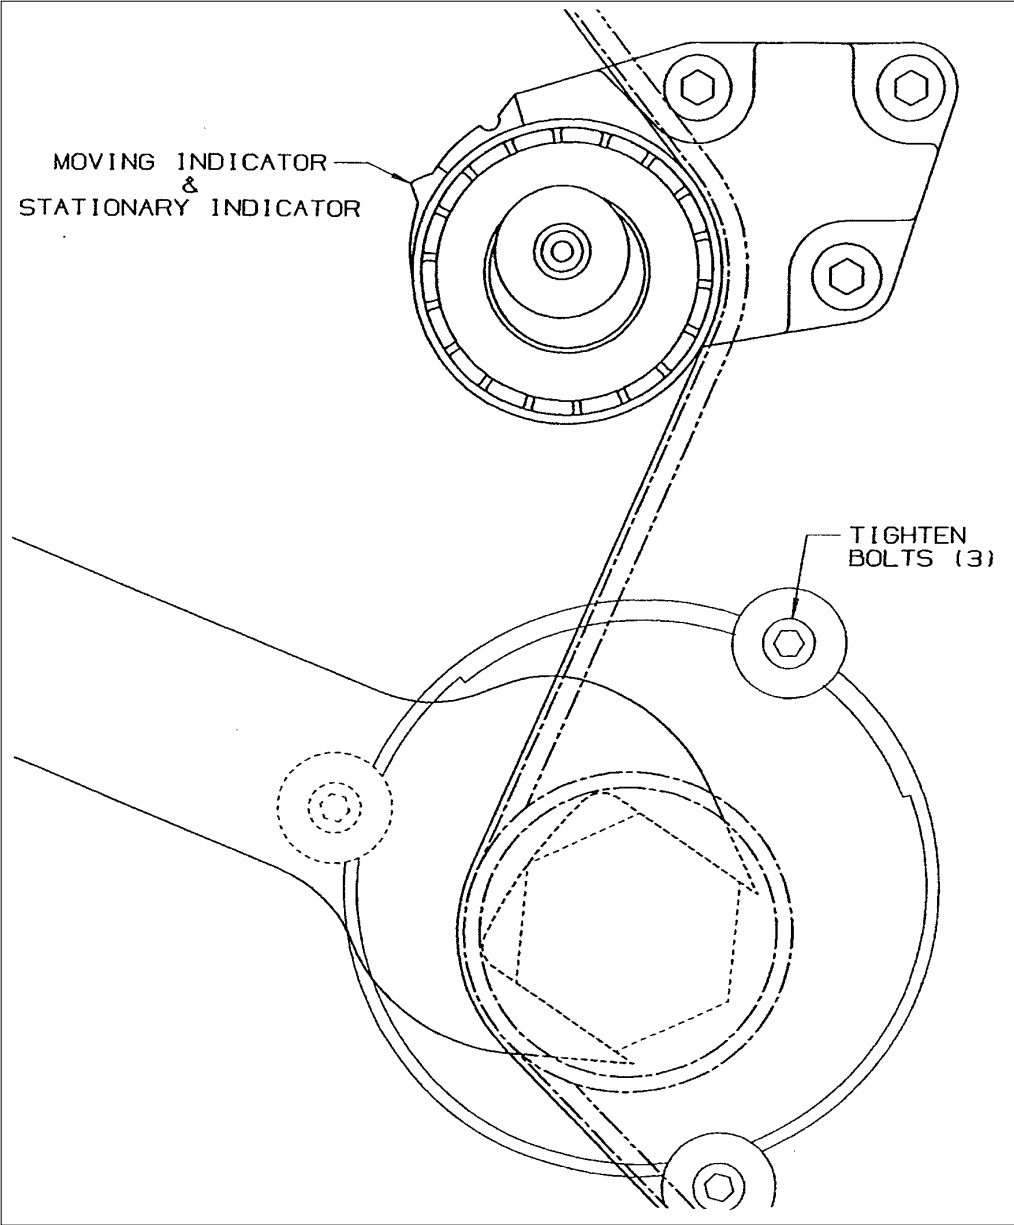

Figure 6: Tensioner at Nominal Position
9. Continue rotating the Water Pump Housing until the Moving Indicator* aligns with the Stationary Indicator** on the tensioner bracket assembly, then tighten the three Clamping Bolts (25Nm) around the Water Pump Housing (See Figure 6).